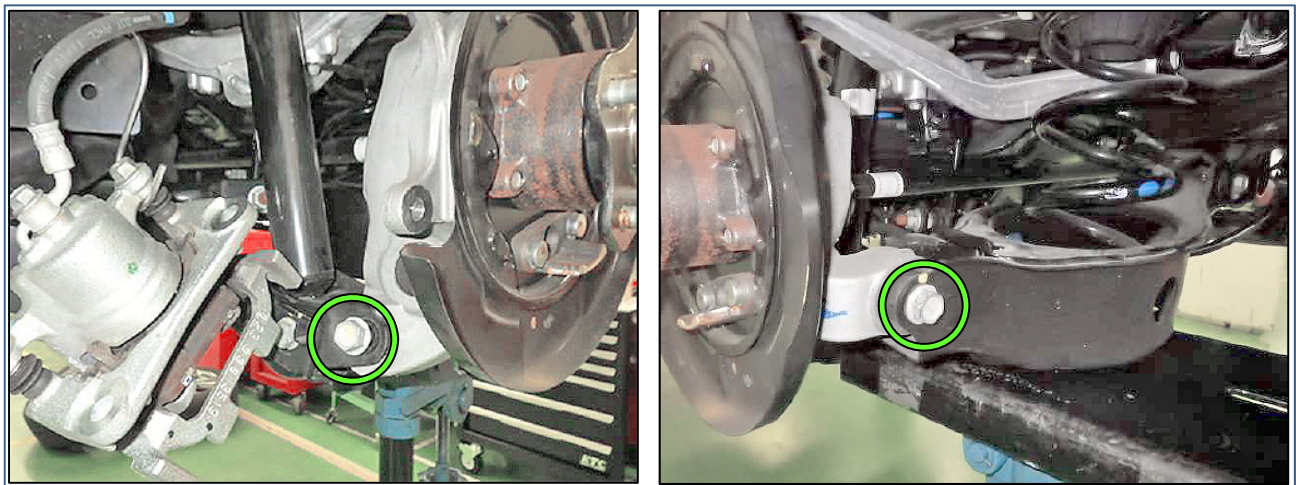

Figure 17
22. Remove the lower link bolts (18 mm) from the rear knuckle, and then separate the rear knuckle from the lower link (Figure 17).